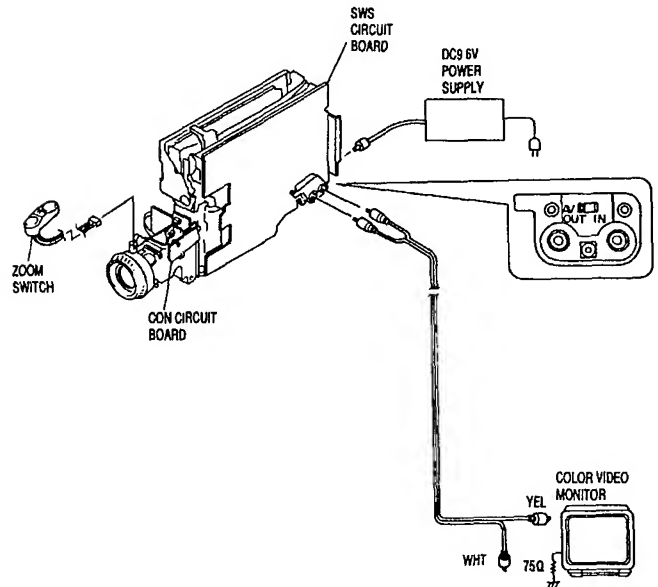

Fig. 3-102
- 2) Connect this unit, a power supply and a color video monitor as shown in Fig. 3-102.